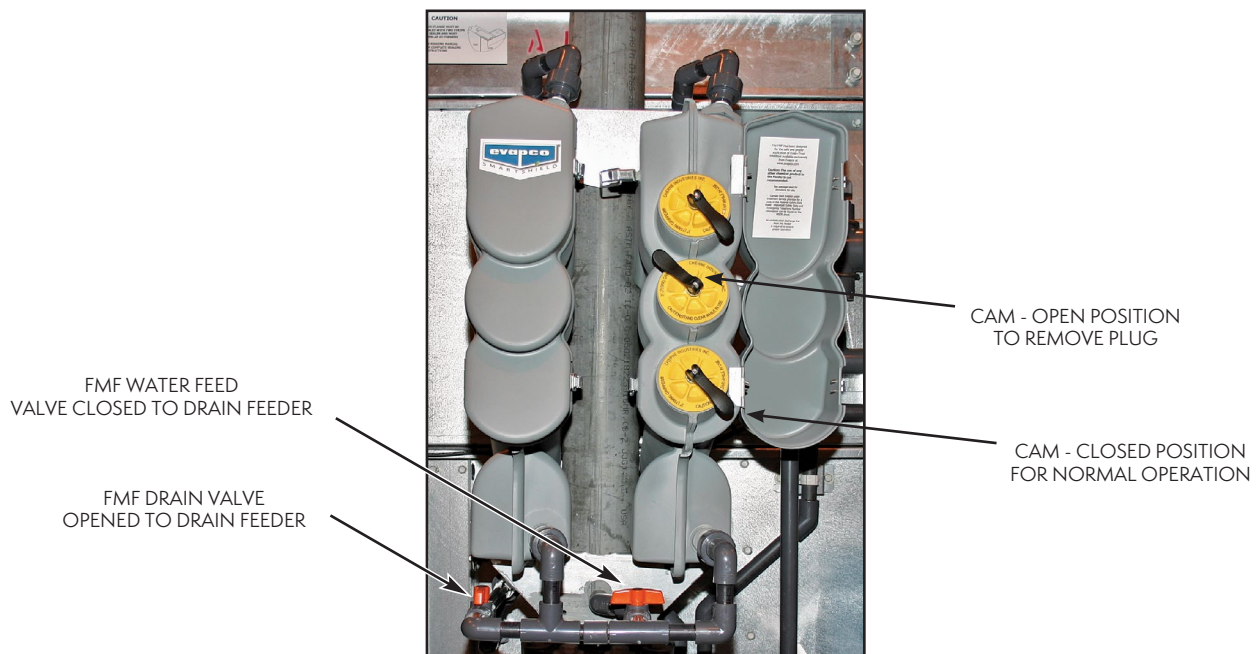
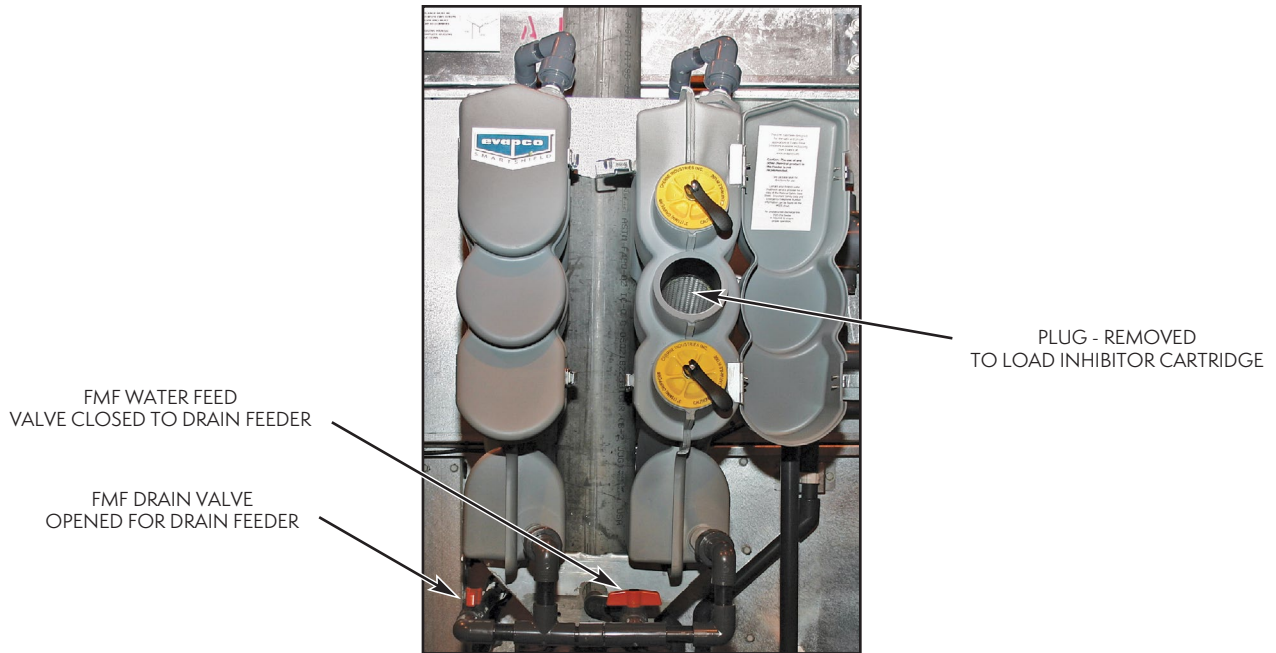

Figure 7 – FMF-6 Cam Lock Positions
Figure 8 – Inhibitor Reload Tube
- 6.2.1** To load, the **FMF** must be isolated from the recirculating water flow and drained. This is accomplished by closing the Water Feed Valve then opening the Drain Valve as shown in Figures 7 and 8.
- 6.2.4** Each tube is closed with a cam-lock plug. Remove the top plug first to ensure the **FMF** has drained. The cam-lock plugs are opened by 180-degree throw as shown in Figure 7. Plug is removed after cam is moved to the open position as shown in Figure 8.